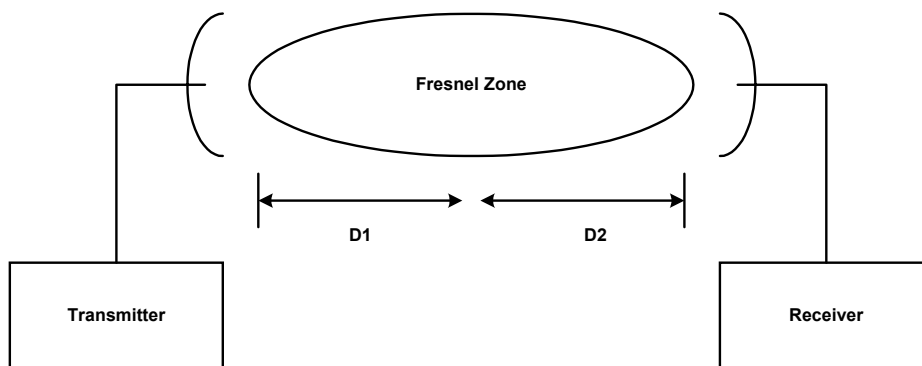

FIGURE 2
- **Fresnel Loss** - The Fresnel Zone is a theoretical area around the line of sight of an antenna transmission that can affect the signal strength. Objects that penetrate the Fresnel Zone can cause fading of the transmitted signal. This fading is caused by the cancellation of the signal due to out-of-phase reflections. An unobstructed line of sight is important, but it is not the only determination of an adequate placement. Even though the path has a clear line of sight, if obstructions (such as terrain, vegetation, metal roofs, cars, etc.) penetrate the Fresnel zone, there will be signal loss. FIGURE 2 illustrates a Fresnel zone.